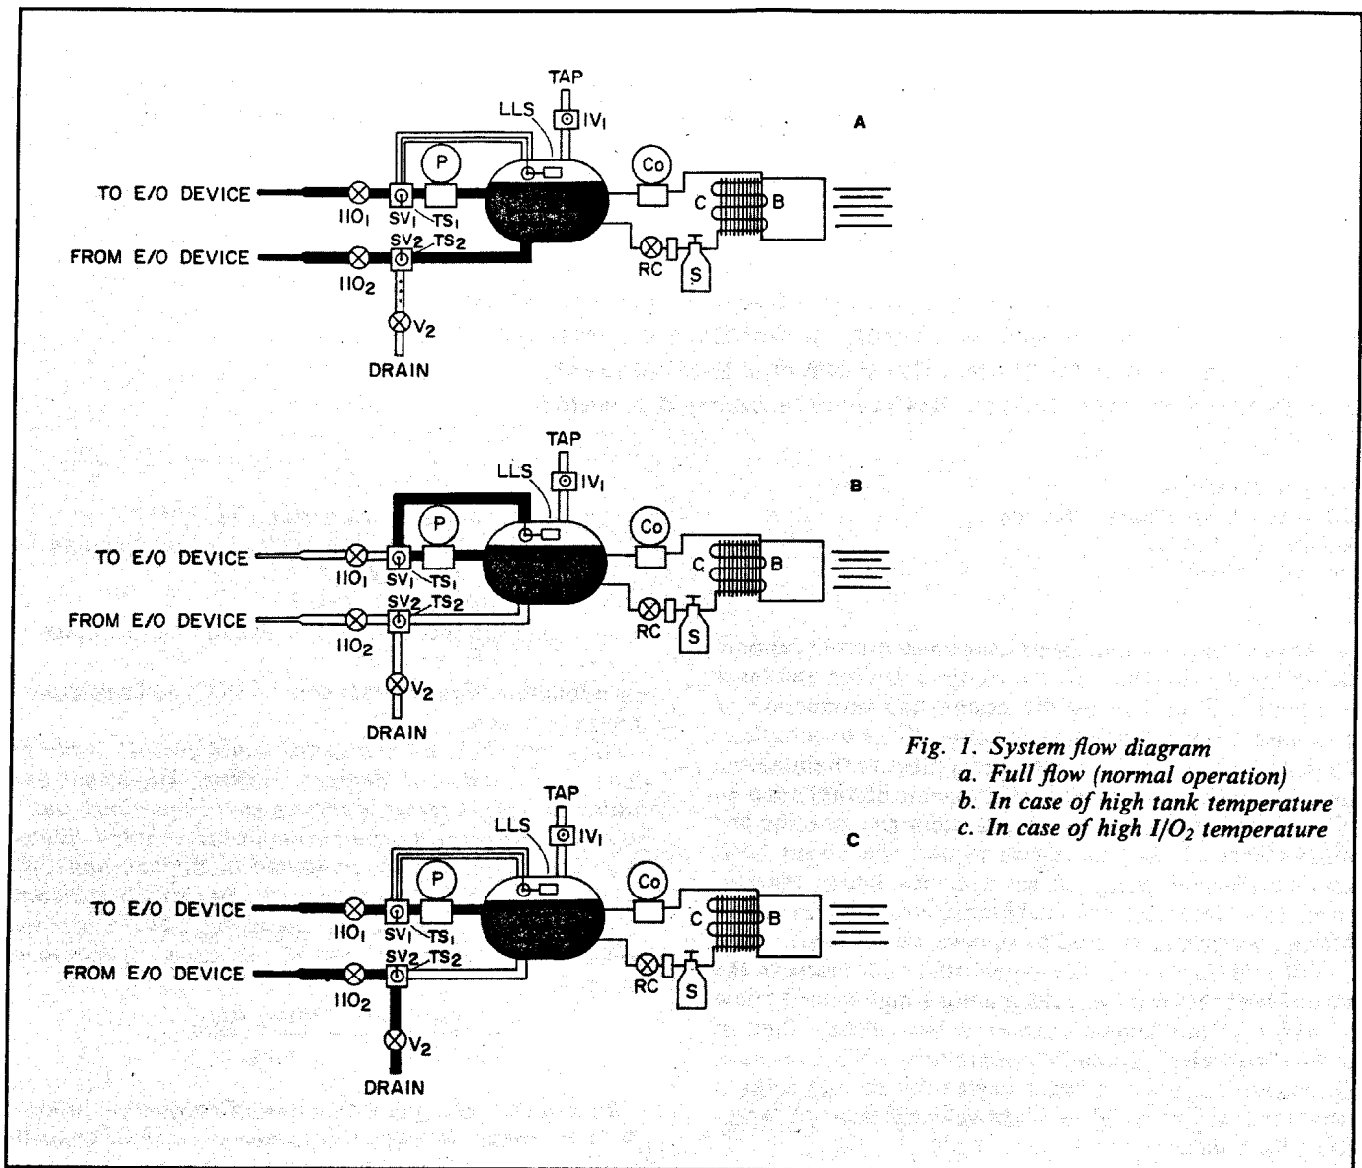

Fig. 1. System flow diagram
Fig. 1 depicts a series of system flow diagrams. In normal operation, Fig. 1a, cooled water from the tank (T) is pumped through the pump (P), the solenoid valve, (SV1) and the I/O1 valve and into the hot device. The